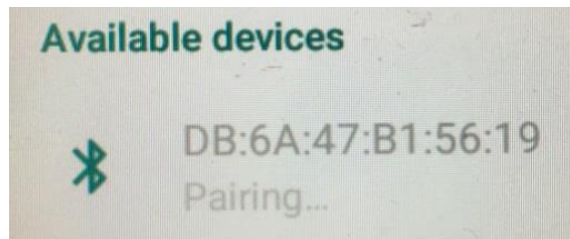

Figure 14 Bluetooth Device Pairing
6. Once the device is detected select the device and the **Pairing** will appear below the device see figure 14.